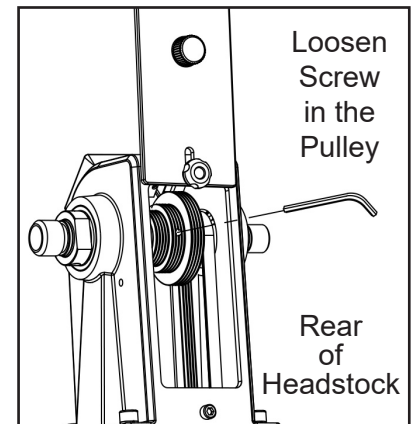

FIG. 19
5. Loosen the set screw that attaches the spindle pulley to the spindle. FIG. 19. The pulley should now be loose on the spindle. Make sure that it is away from the RPM reader for the next step.